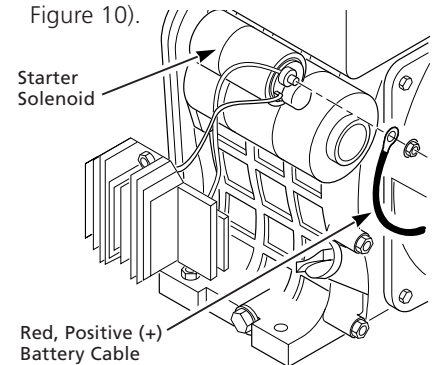

Figure 10 – Connecting Red, Positive (+) Battery Cable to Starter Solenoid on Engine
1. Attach the red, positive (+) battery cable to the starter solenoid on engine (See Figure 10).